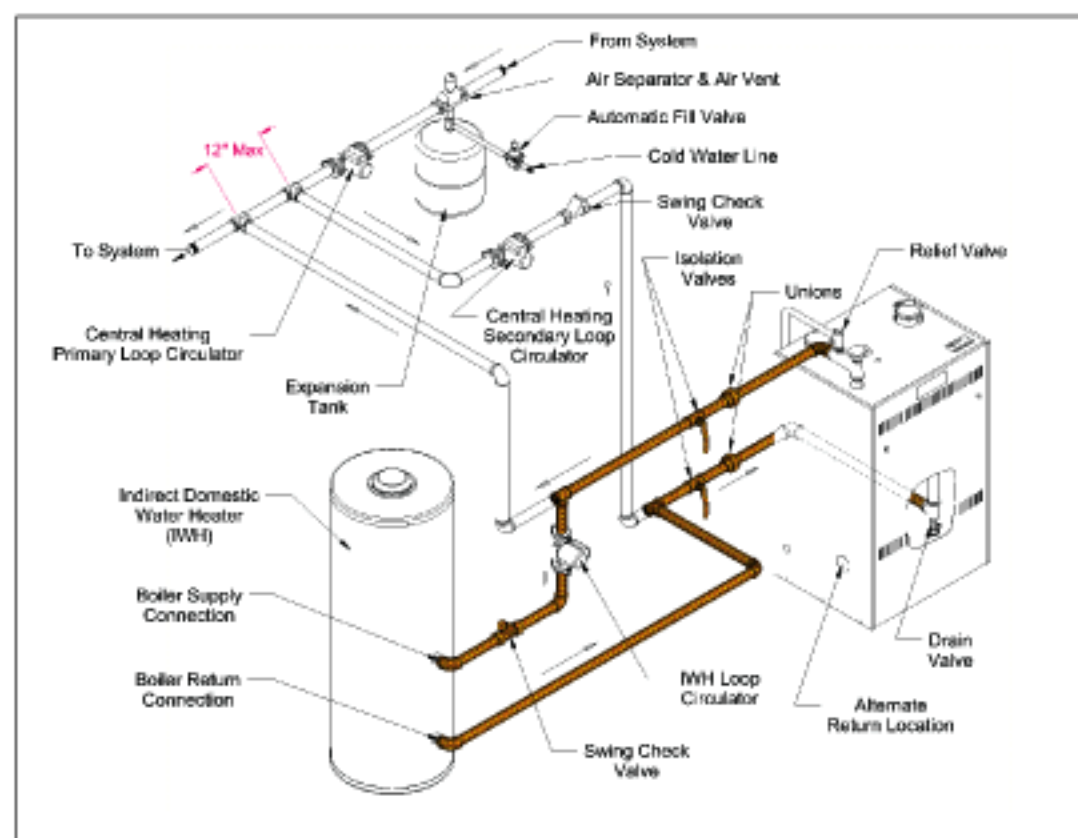

Figure 8.4b: Piping Method #1 - Indirect Water Heater Loop Piping (Shaded)
- a) Count all fittings in the planned Indirect Water Heater Loop (the indirect water heater loop consists of the shaded piping in Figure 8.4b). In doing so, you will be counting some piping and fittings which are common to the heating system secondary ("boiler loop") piping and which were counted in Step 2a above. Do not count the elbows or fittings supplied with the boiler.